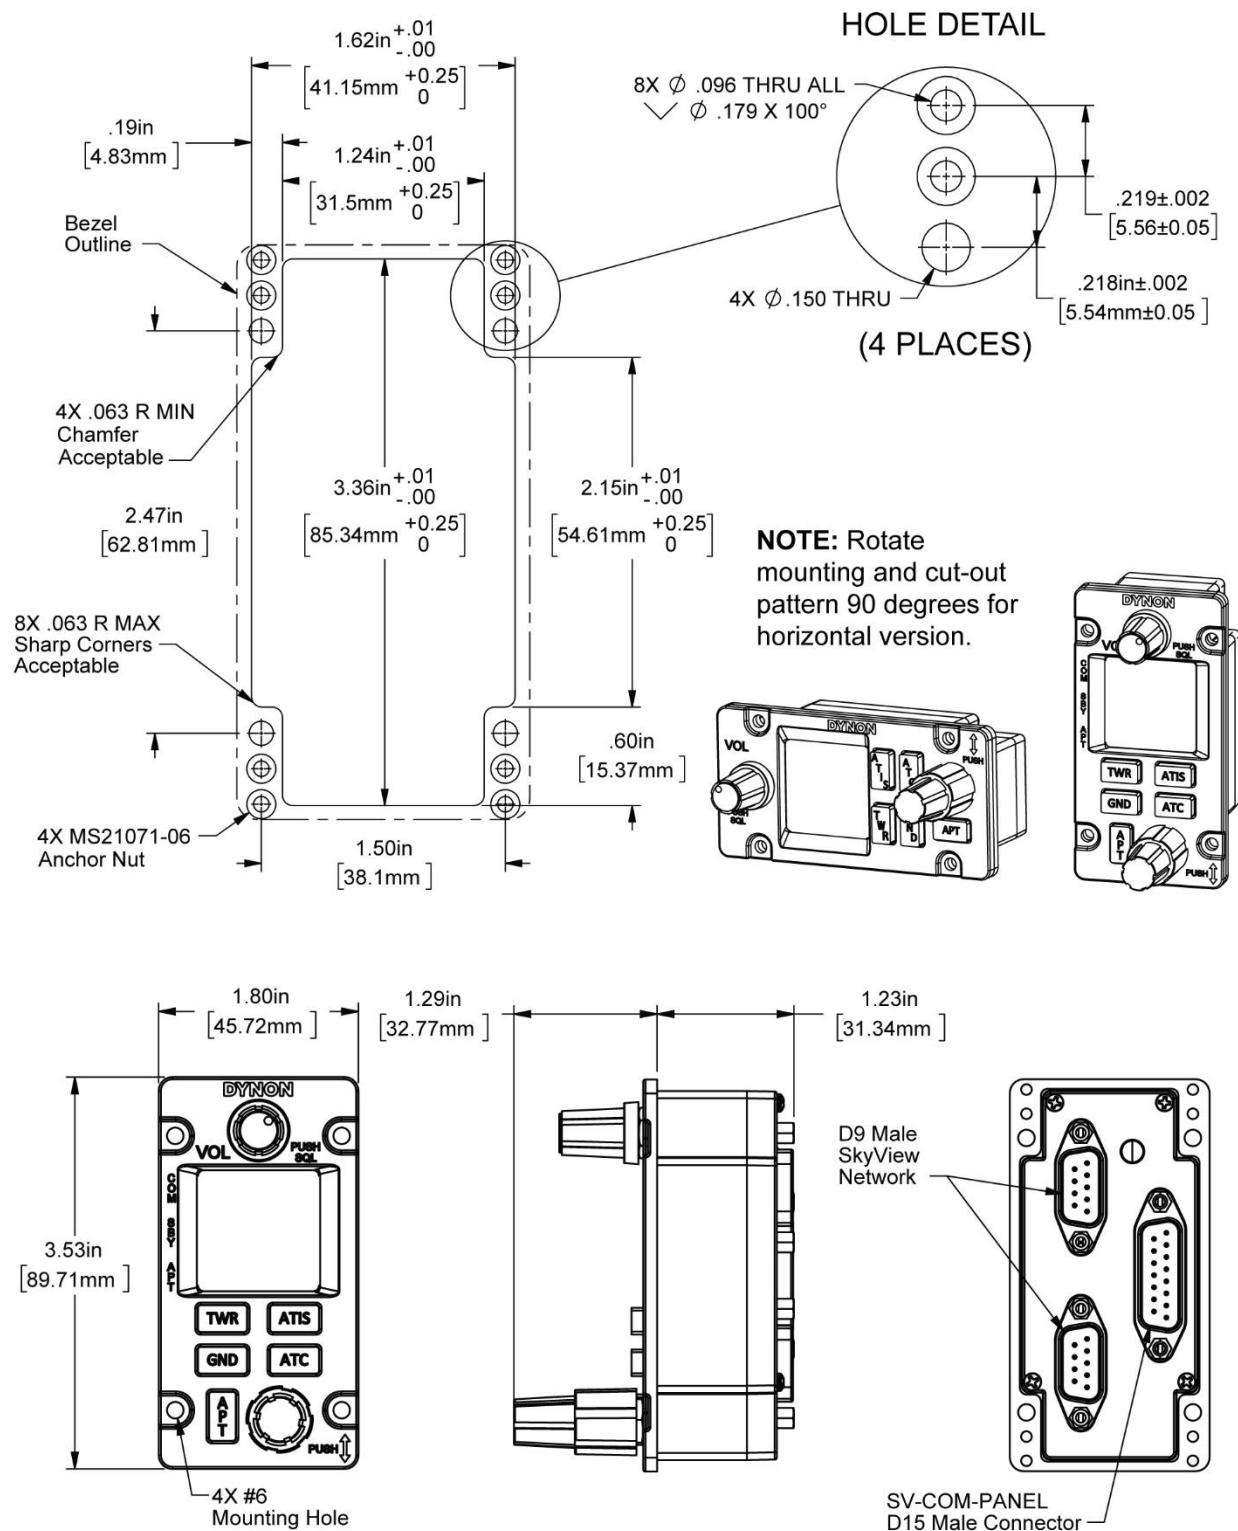

Figure 202: SV-COM-PANEL Panel Cut-out and Mounting Dimensions
- Panel Cutout: (irregular – see Figure 202)